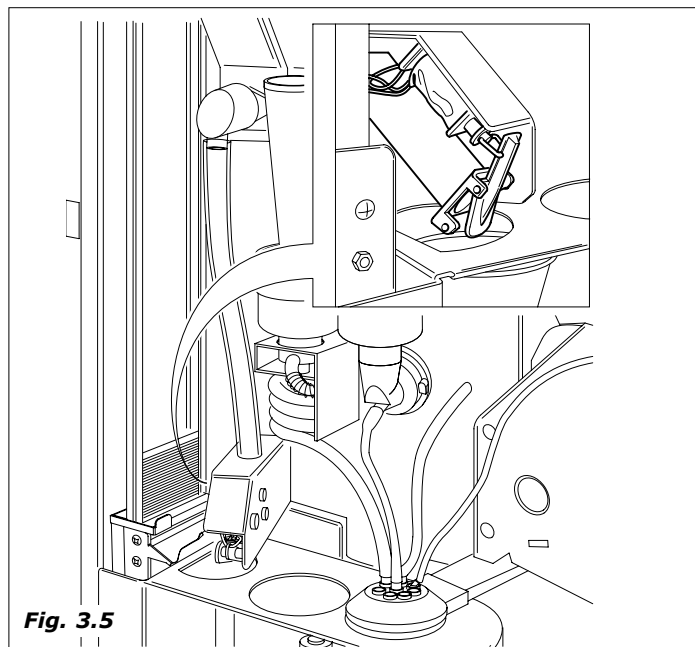

Fig. 3.5
2. The electromagnet is engaged which will empty the sugar from the flange into the chute which will deliver it to the cup (*Fig.3.5*).